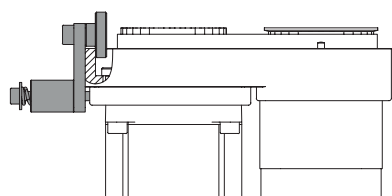

Figure 26: Mounting of the belt pretensioning unit.
STEP 7: Mount the clamping plate **15** onto the edge of the housing of the motor side drive **1**, see figure 26.